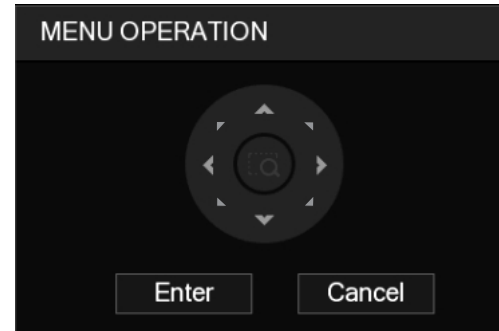

Figure 5-8
Step 4 Click **+**. The MENU OPERATION panel is displayed. See Figure 5-8. The OSD menu of the corresponding camera is displayed on the live view screen.